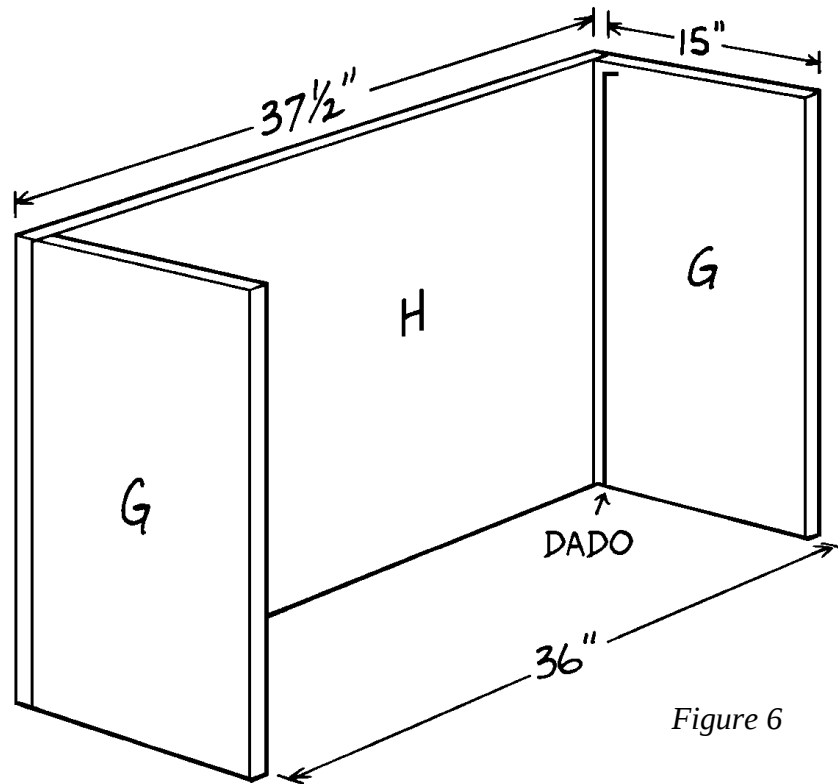

Figure 6
3. Repeat Step 2 to dado the remaining side (G), keeping in mind that the two dadoed sides (G) must be mirror images of each other when you're finished.
4. Cut one 37-1/2" x 29-1/2" back (H) from 3/4"-thick plywood.
5. At this point, you should perform what's known as a "dry assembly"—a temporary assembly using screws but no glue—to make certain that the desktop assembly will fit and slide easily inside the dados cut into the two sides (G). This particular step will be easier if you can a willing helper to assist.
6. First, using only as many screws as needed to hold the parts together, attach the back (H) over the edges of the two sides (G), as shown in *Figure 6*, with the mirror-image dados in the sides (G) placed at the back of the assembly. Insert the screws through the back (H) and into the edges of the sides (G). Now turn the assembly upside down.
7. To hold the open front edges of the sides (G) exactly 36" apart, attach two pipe clamps to them.
8. Now you need to test-fit the desktop assembly by slipping the dowel rods (C) protruding from its ends into the dados in the sides (G) of the cabinet. To do this hold the desktop assembly vertically over the partly assembled cabinet, with the top face of the desktop (A) facing the inner surface of the cabinet back (H) and the desktop front (D) facing down. Fit the dowel rods (C) into the dados in the two sides (G), and gently lower the desktop assembly into the cabinet.
9. Carefully turn the entire assembly right side up. Pull the desktop front (D) upward and forward towards the open front of the cabinet, making certain that the dowel rods (C) glide easily within the dados, and that the desktop assembly will rotate from a vertical to a horizontal position when you reach the top of the dados. If the movement isn't smooth, now is the time to correct it. You may have to enlarge the dados at places where the dowel rods (C) bind, sand down the rods slightly, or further round the back edge of the desktop assembly.
10. When the assembly works to your satisfaction, disassemble the structure, set the desktop assembly aside, and reassemble the back (H) and two sides (G), this time using glue and inserting 1-1/4" screws about 6" apart along the length of each joint.
11. Cut six 9-3/4"-long inner supports (I) from 1 x 3 pine.